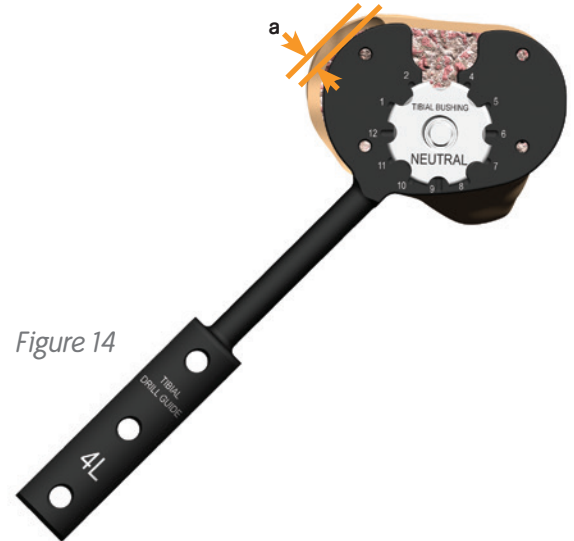

Figure 14
1. If adequate tibial coverage is not achieved with the Neutral Tibial Bushing Assembly (Figure 14), remove the assembly from the tibial plateau.